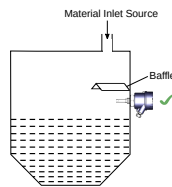

Figure 13: Provision of Baffle
- For side-mounting, provide a baffle to prevent the material from falling on the fork. Please refer to Figure 13.